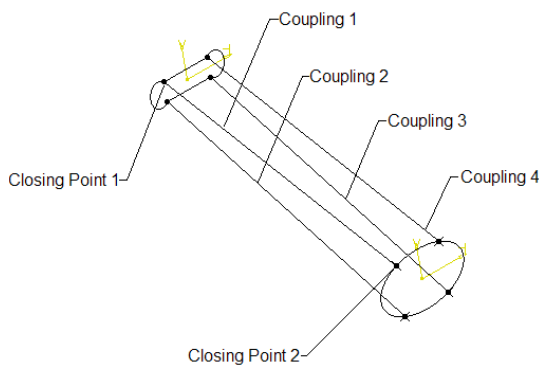

Figure 9-67 The couplings and closing points
11. Move the cursor on the text **Closing Point 2**. Invoke the contextual menu and choose the **Replace** option. Choose the closing point shown in Figure 9-67.